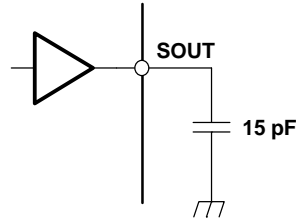
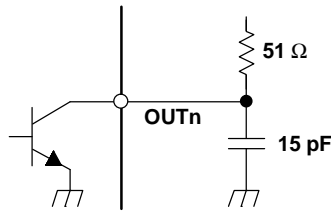
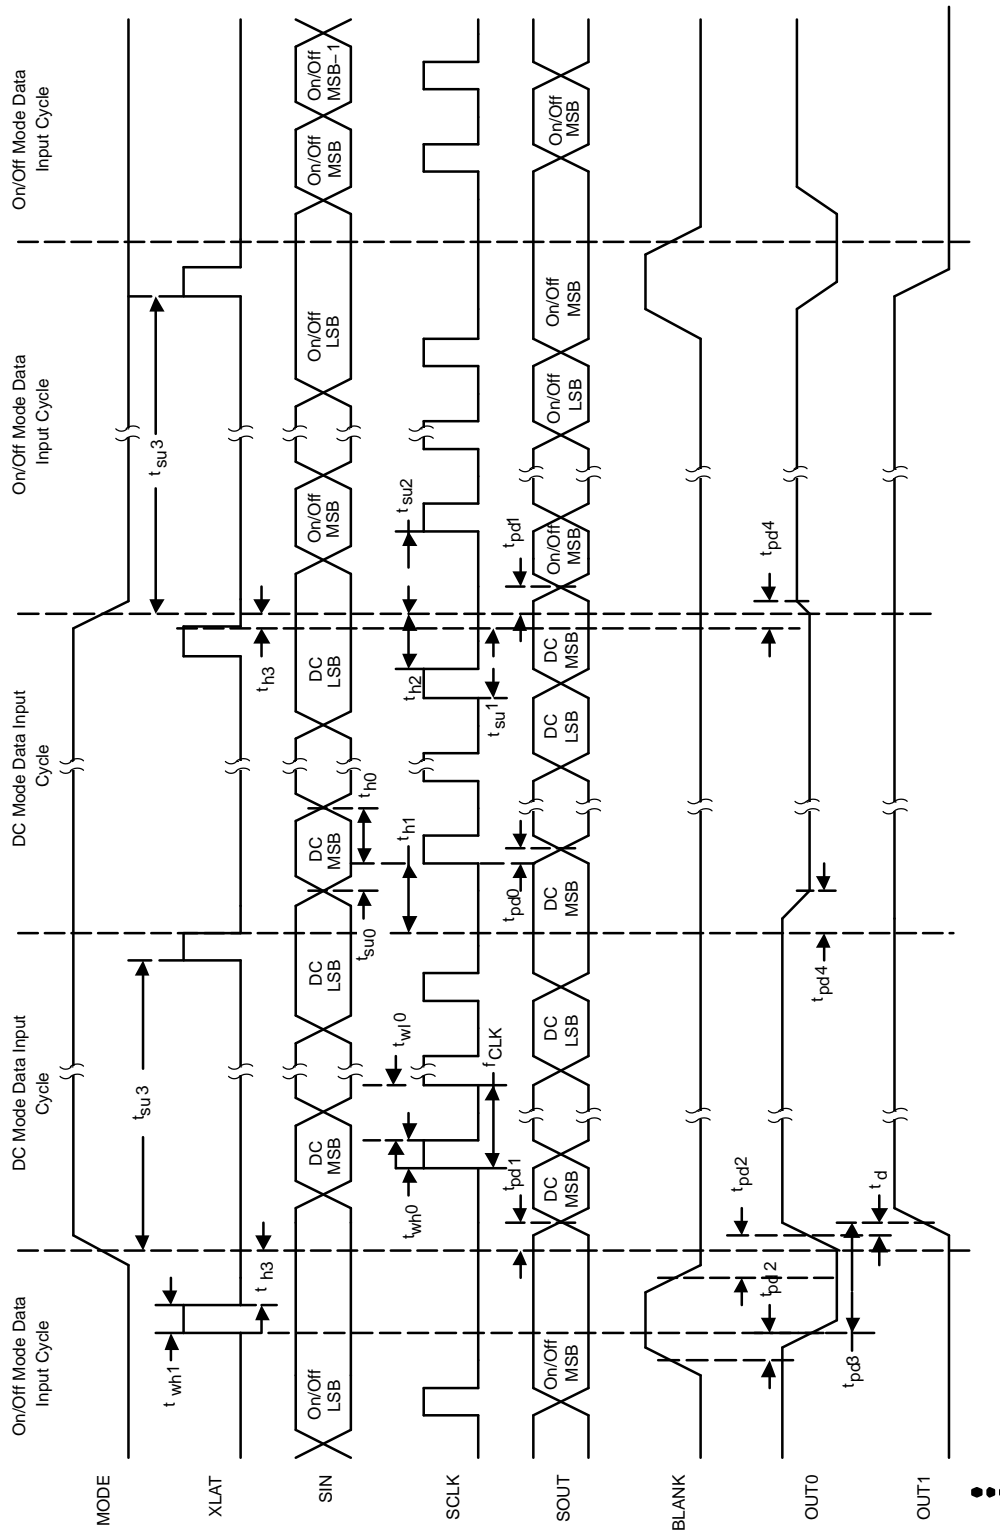

Figure 4. Test Circuit for t_{r0} , t_{f0} , t_{d0} , t_{d1}
Figure 5. Test Circuit for t_{r1} , t_{f1} , t_{pd2} , t_{pd3} , t_{pd4}
Figure 10. Timing Chart Example for ON/OFF Setting to Dot-Correction
- (1) See Figure 4. Defined as from 10% to 90%
- (2) See Figure 5. Defined as from 10% to 90%
- (3) See Figure 4, Figure 10
- (4) See Figure 5 and Figure 10
- (5) See Figure 5, and Figure 10
MODE must be set to high to input data into the dot-correction register. The internal input shift register is then set to 112-bit width. After all serial data is clocked in, a rising edge of XLAT latches the data to the dot-correction register (Figure 10).
MODE must be set to low to input On/Off data into the On/Off register. The internal input shift register is then set to 16-bit width. After all serial data is clocked in, a rising edge of XLAT, during BLANK = high, is used to latch data into the On/Off register. Figure 10 shows the On/Off data input timing chart.